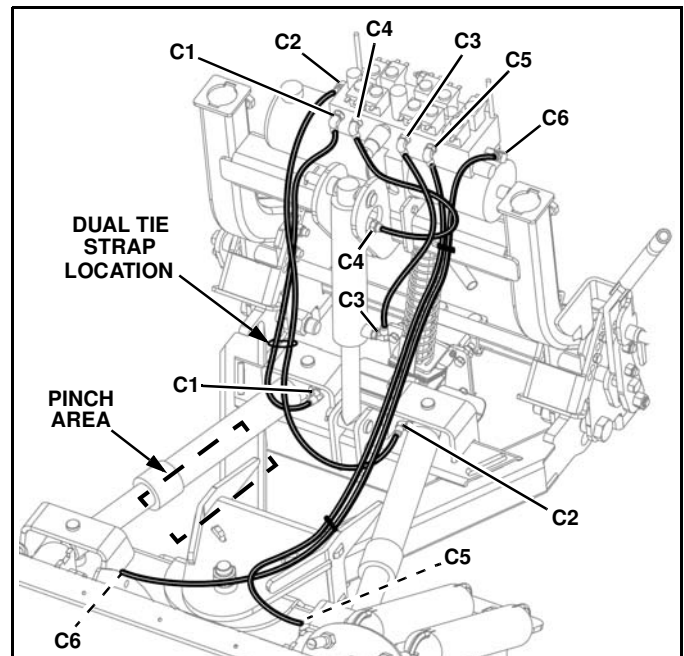

Figure 1-30
21. Connect hoses from C1 and C2 on the valve to the swing cylinders and from C3 and C4 to the lift cylinder as shown. Check hoses for pinching or binding. (See Figure 1-30).
22. Connect hoses from C5 and C6 to the wing cylinders. (See Figure 1-30).
23. Install a dual tie strap (p/n 96112692) in the approximate location shown to prevent hoses from pinching between either swing cylinder and A-frame when stacking. Lift plow to ensure that hoses are free of pinch area. (See Figure 1-30).